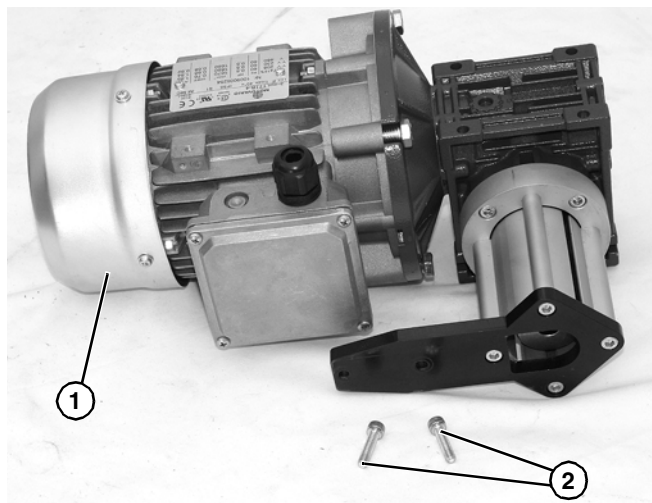

Figure 4
1. Typical components (**Figure 4**)
Flat belt mounting package shown above (**Figure 4**), cleated belt mounting package similar.